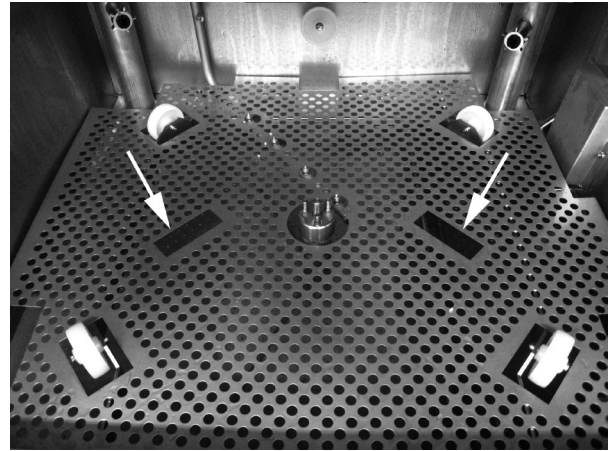

Figure 1: Tank Grid
1. Put the Tank Grid in place (see figure 1 Tank Grid).